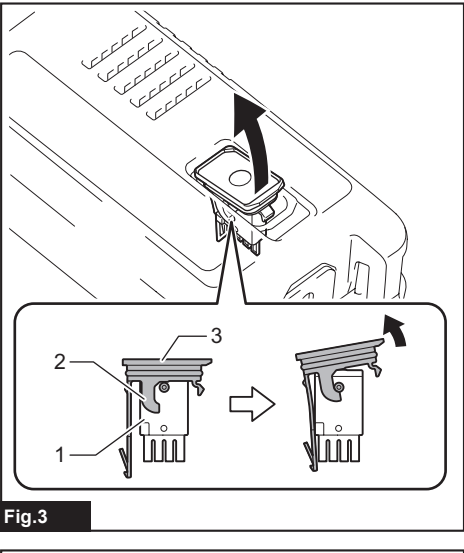

Fig. 3
- **Fig.3:** 1. Wireless unit 2. Hook 3. Lid